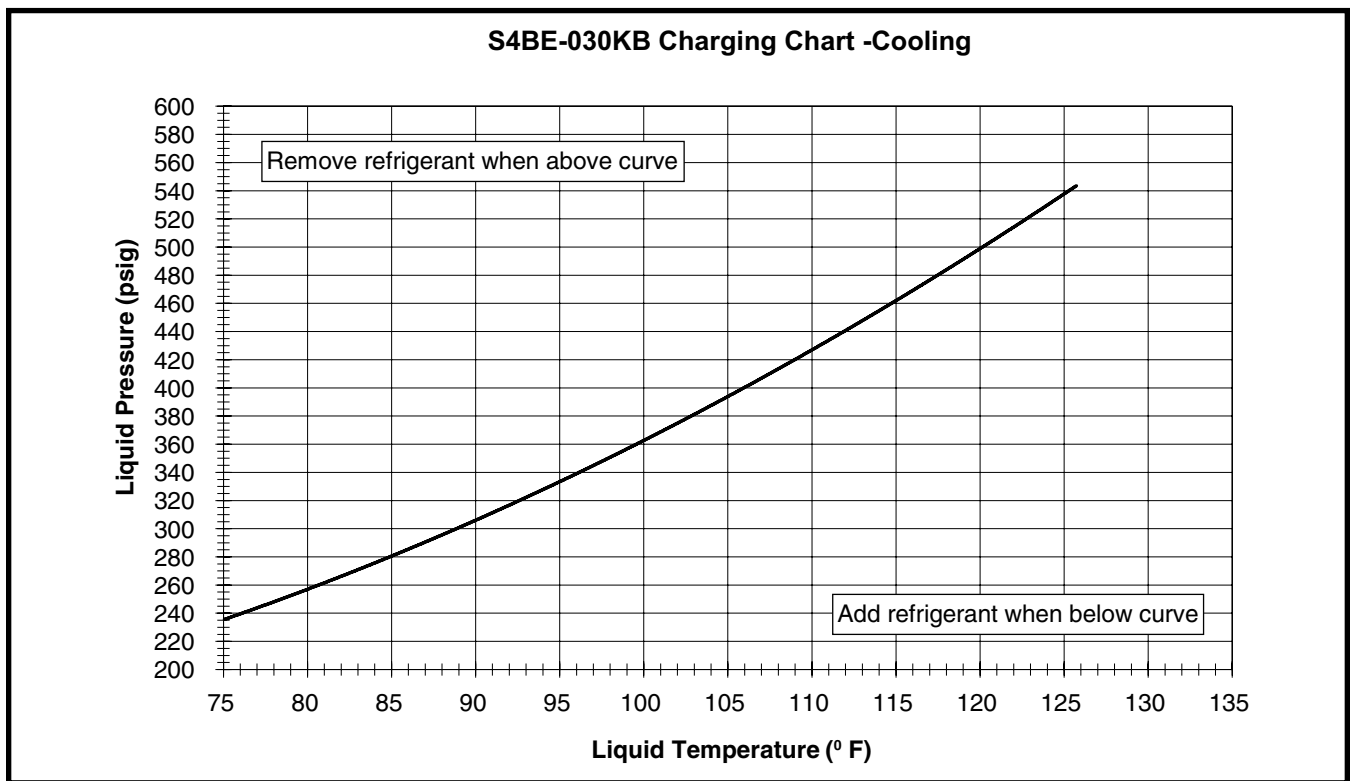

**Figure 2. Charging Chart (1.5 Ton Models)**
- The refrigerant charging charts Figure 2, \(page 8\), Figure 3, \(page 8\), Figure 4, \(page 9\), & Figure 5, \(page 9\) are applicable only to matched assemblies of NORDYNE equipment and listed airflows for the indoor coil. **NOTE:** Before using these charts, make sure the unit is in a stable operating mode. As shown in the charts, the ideal system sub-cooling can vary over the range of operation. Reference the charts to determine the ideal amount of sub-cooling for a given liquid pressure. Units charged to other values will not perform at the rated unit efficiency (EER) or rated Coefficient of Performance (COP) in heating mode.